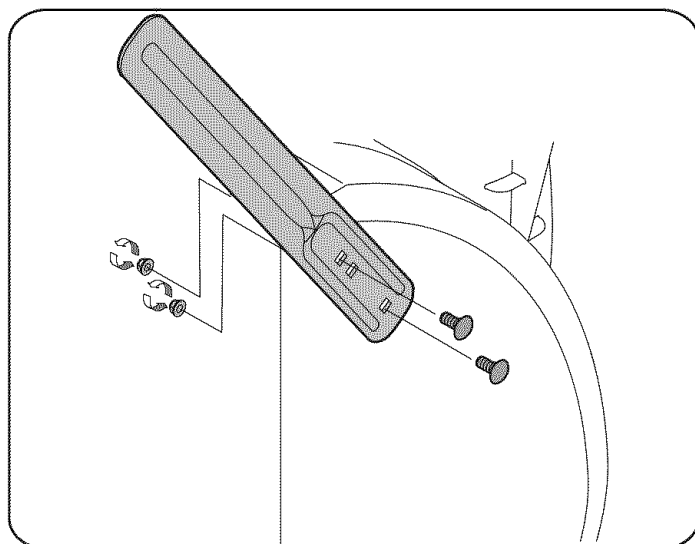

Figure 7
- Turn the drift cutters around and position them as shown in Figure 7 to the outside of the auger housing.